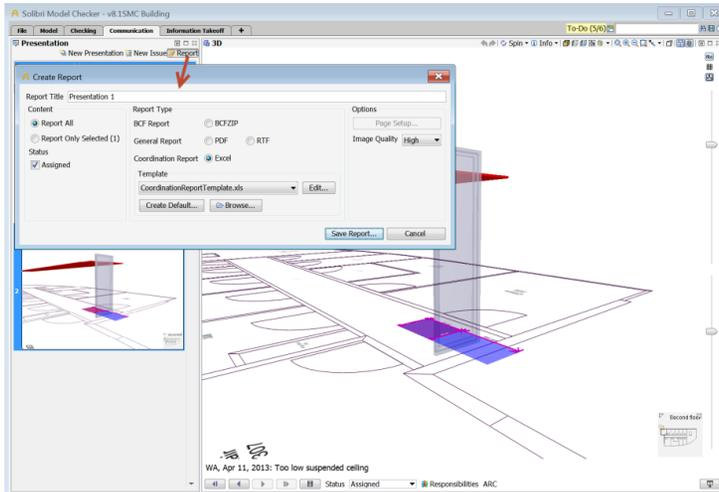

Figure 73 Making a Coordination Report
- You can write a report containing all issues and comments by clicking Report  on the Presentation View Toolbar (see Figure 73). Create Report Dialog is opened.